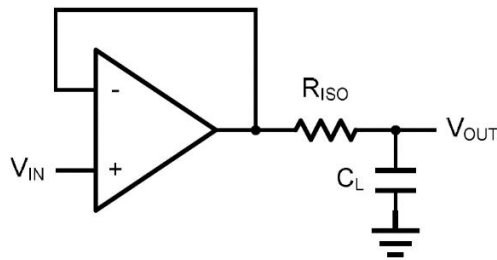
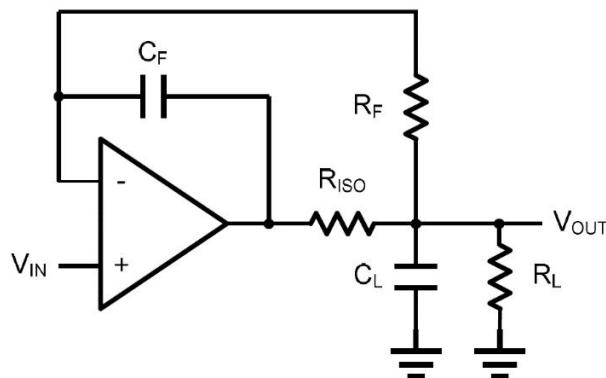

Figure 2. Indirectly Driving a Capacitive Load Using Isolation Resistor
Figure 3. Indirectly Driving a Capacitive Load with DC Accuracy
The CBM6001 family is optimized for bandwidth and speed, not for driving capacitive loads. Output capacitance will create a pole in the amplifier's feedback path, leading to excessive peaking and potential oscillation. If dealing with load capacitance is a requirement of the application, the two strategies to consider are (1) using a small resistor in series with the amplifier's output and the load capacitance and (2) reducing the bandwidth of the amplifier's feedback loop by increasing the overall noise gain. Figure 2 shows a unity gain follower using the series resistor strategy. The resistor isolates the output from the capacitance and, more importantly, creates a zero in the feedback path that compensates for the pole created by the output capacitance.
The circuit in Figure 3 is an improvement to the one in Figure 2.  $R_F$  provides the DC accuracy by feed-forward the  $V_{IN}$  to  $R_L$ .  $C_F$  and  $R_{ISO}$  serve to counteract the loss of phase margin by feeding the high frequency component of the output signal back to the amplifier's inverting input, thereby preserving the phase margin in the overall feedback loop. Capacitive drive can be increased by increasing the value of  $C_F$ . This in turn will slow down the pulse response.